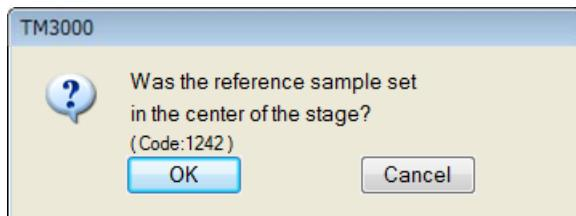

Figure 5.2-4 Image Verification Specimen Loading Confirmation Window (1)
- ※ If the supplied image verification specimen is not loaded, in the confirmation message shown in Figure 5.2-4, click the [Cancel] button. When the following message appears, click the [OK] button, and by following the message, load the supplied image verification specimen and perform the beam axis adjustment procedure again.